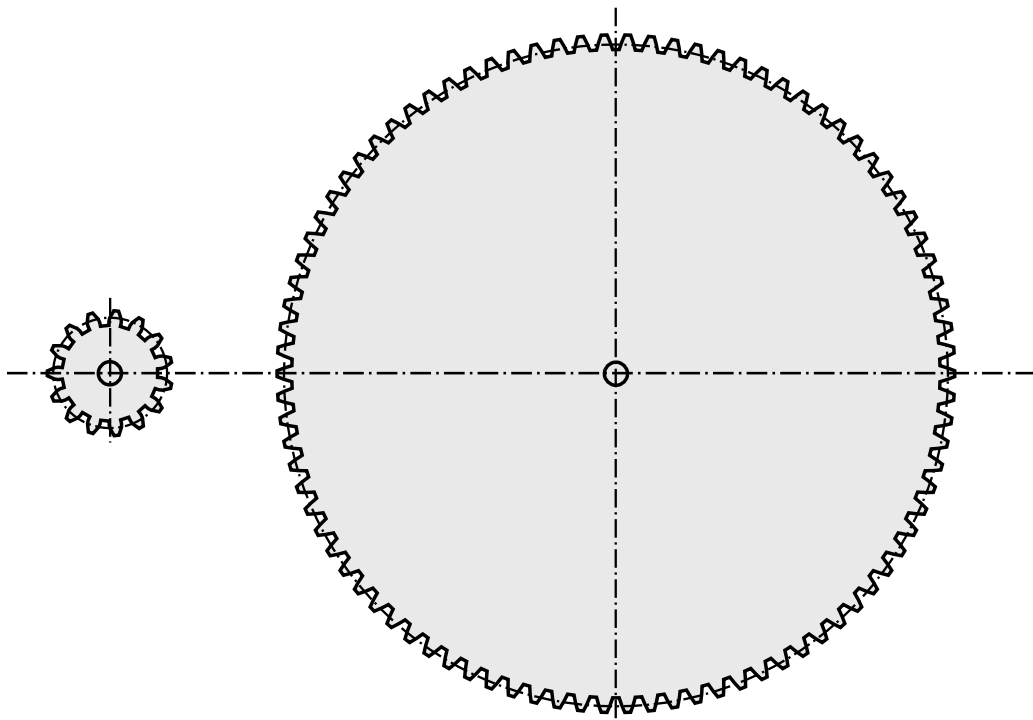

Figure 6
d. Figure 6 shows the same input and output gears separately. On Figure 6 draw the missing part so that Gear B rotates in the same direction of Gear A with the output speed remaining unchanged.